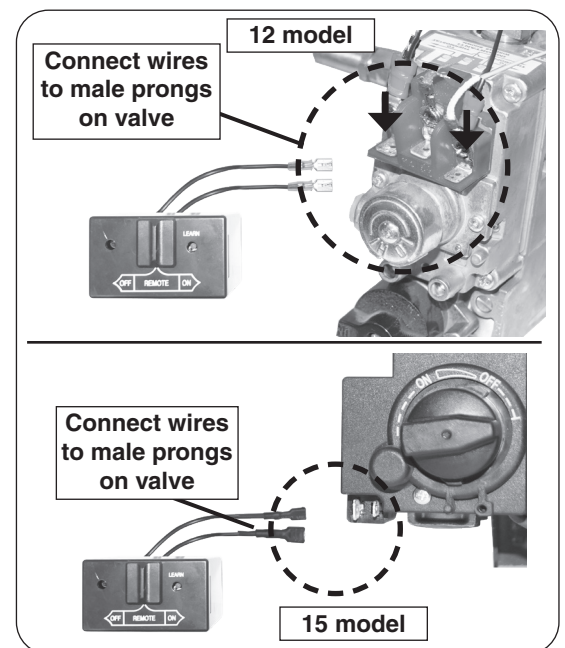

Fig. 17-3 Connect remote receiver to valve
2. Locate the wires coming off of the remote receiver, and connect them to the two male prongs found on the valve (see Fig. 17-3).